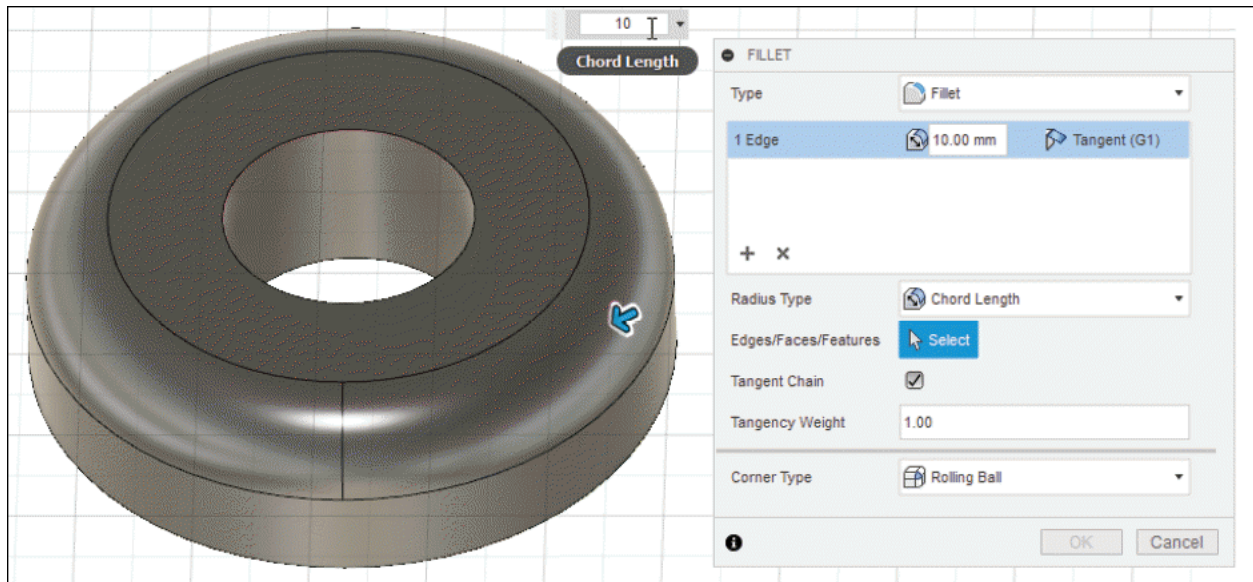

Figure-11. Preview of chord length fillet
- Click in the **Chord Length** edit box and enter desired value for fillet. You can also set the value by moving the drag handle. The preview will be displayed; refer to Figure-11.